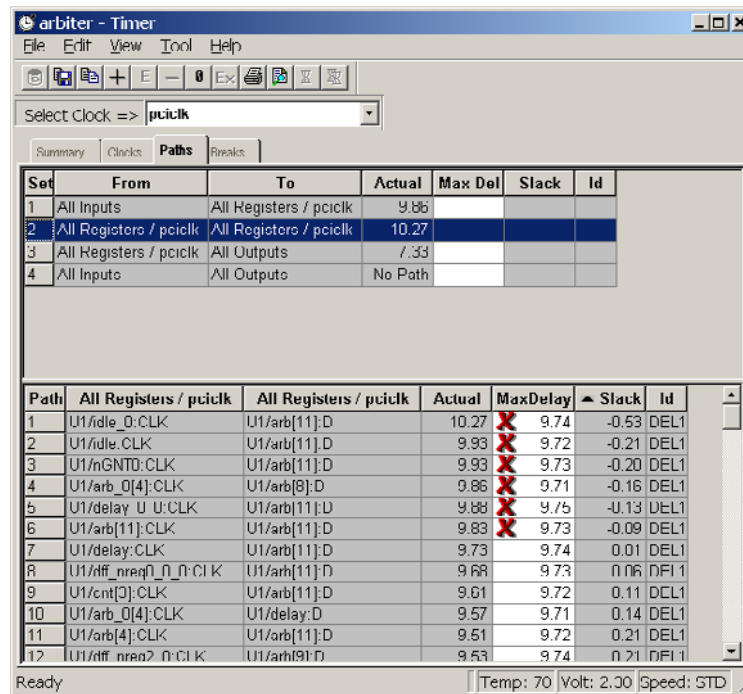

Figure 7 • Register to Register Paths That Violate Timing
- Set a path delay requirement on the violating paths in the corresponding MaxDelay column. For the Timer to accept and honor the new MaxDelay timing constraints, the new timing constraint value must be tighter (smaller) than the max delayed derived from the clock period. For example, the MaxDelay for Path 1 must be less than 9.74 ns, and the MaxDelay for Path 5 must be less than 9.75 ns (Figure 7). The new accepted constraints appear as the user-defined paths on the top portion of the Timer -> Paths tab (Figure 8 on page 9).